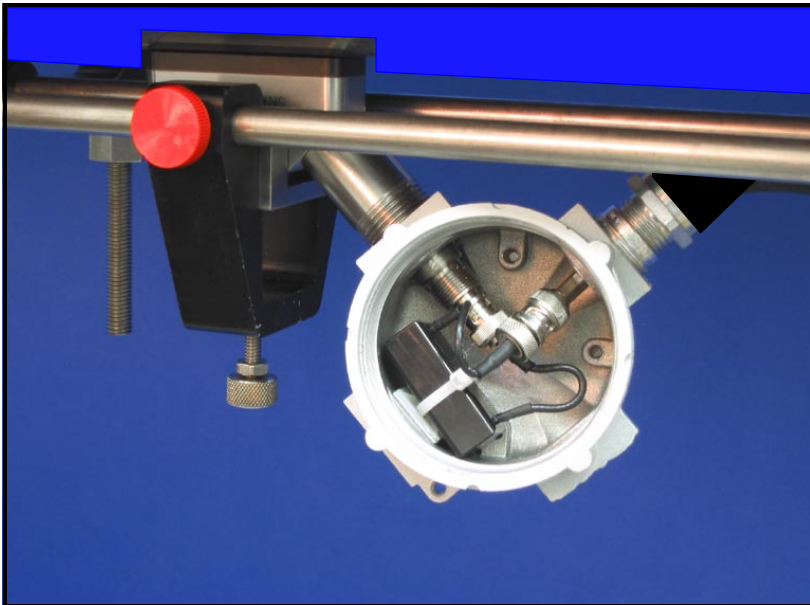

Figure 16: Receive Transducer with Preamplifier
2. Using a second pair of BNC to BNC coaxial cables, connect the preamplifiers (attached to the receiver transducers) to RX1 (Upstream Receiver) and RX2 (Downstream Receiver) in the electronics console (refer to Figure 16 and Figure 17 on page 30).